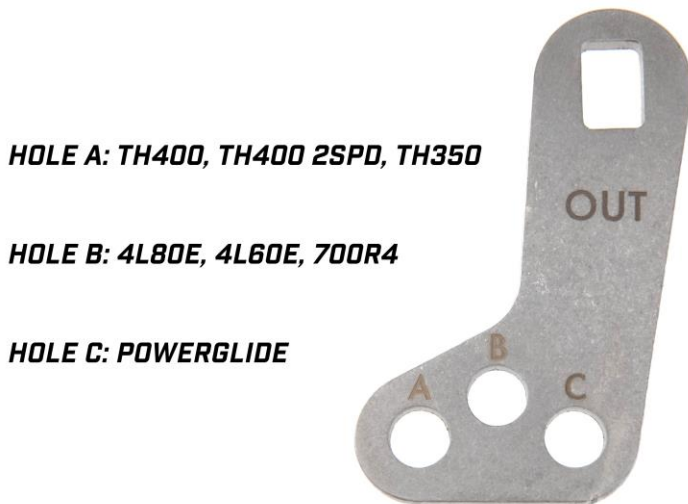
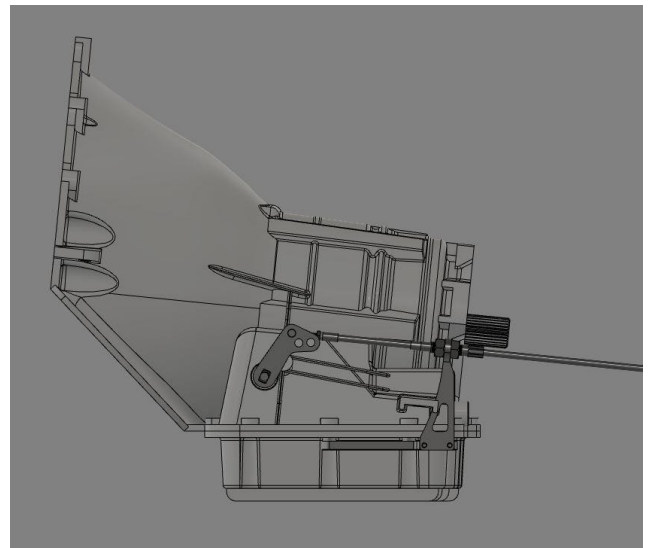

Figure 3
Figure 3.1
4. Moving down to the transmission, install the gear selector bracket on the transmission shift shaft as shown in Figure 3.1. (Note be sure to install the side marked OUT facing out as seen in Figure 3).